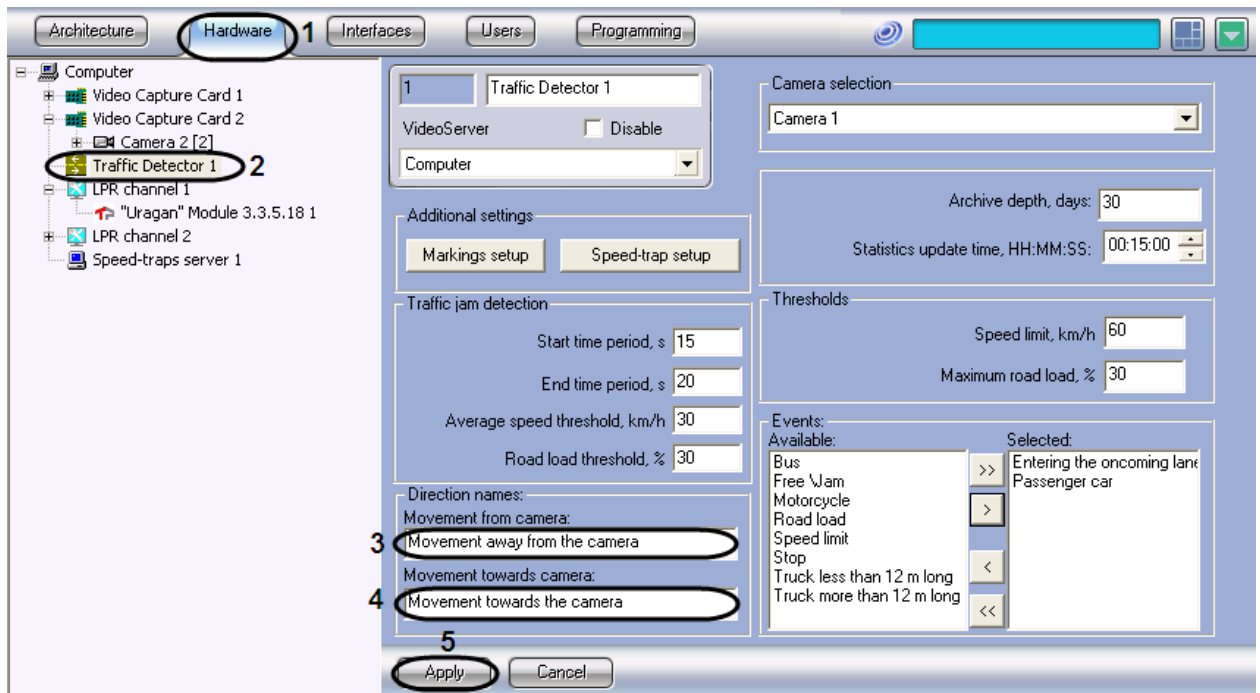

Fig. 7.4-18 The traffic direction names setup
2. In the object tree on the left side of the Hardware tab, select the Traffic Detector object representing the Traffic Detector module to be set up. The settings panel of the selected object will open on the right side of the window (see Fig. 7.4-18).